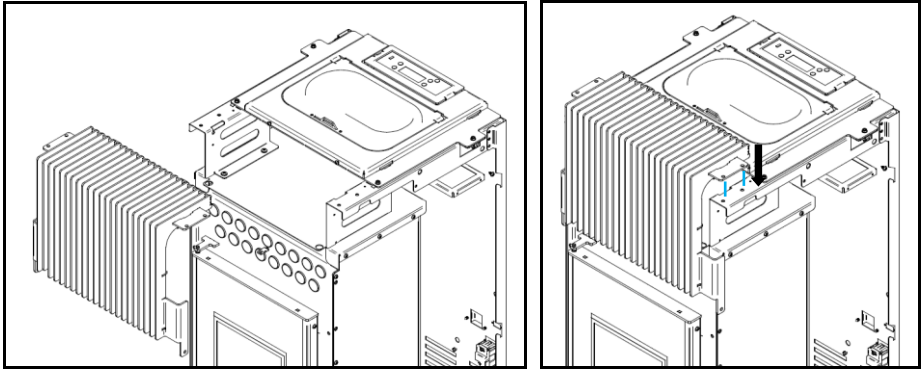

Figure 36 - Fitting the front grille
b) On **Pine, Leaf and Aspen** equipment. Fit the front grille, matching the holes in the grille to the holes in the appliance (Figure 36).